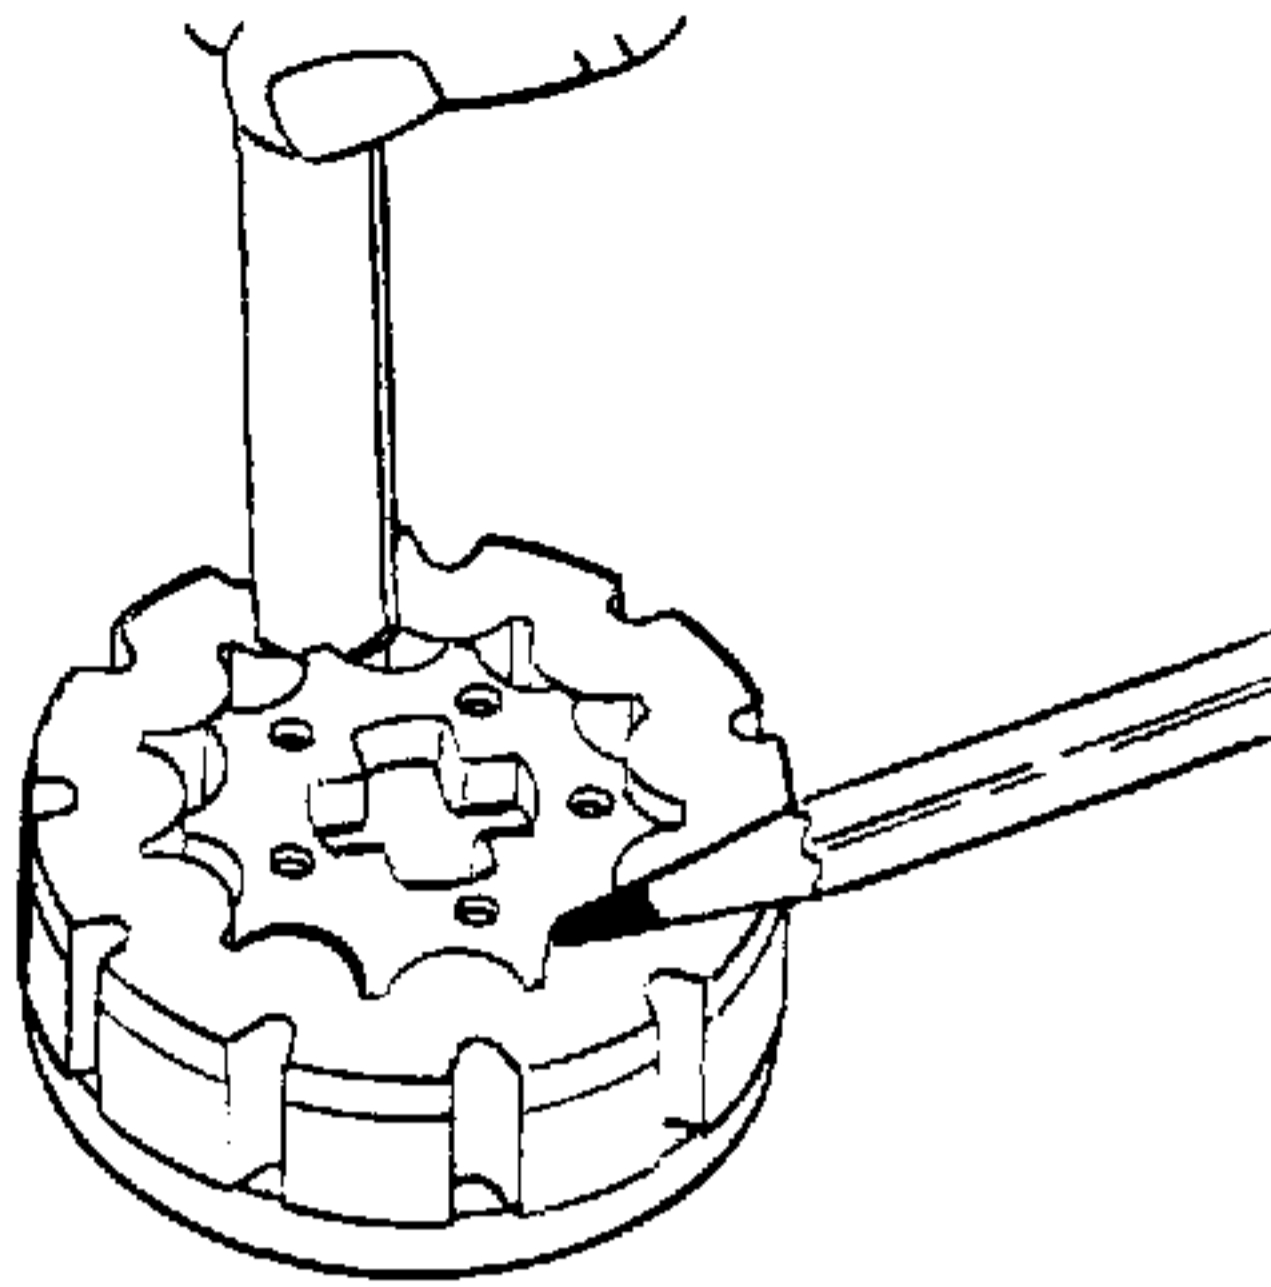

Figure 5-41. Checking Tip Clearance.
8. Inspect hex drive assembly (9) pin for wear. Pin should be firmly pressed in place. Sides of hex and slot should not have grooves or scoring. Replace if damaged.
9. Inspect isolation manifold (10) surfaces. Polished pattern is normal. Holes and edges should be free of nicks. Manifold surfaces should be free of nicks or scoring. Replace if damaged.
10. Inspect drive link (12) ends. Four crowned contact surfaces should not be worn or scored. Replace if worn or scored.
11. Inspect metering ring (13) bore for scores. Replace if scored.
12. Inspect commutator cover (16) surfaces. Polished pattern is normal. Replace if nicks, burrs or scoring are present.
13. Inspect drive link spacer (18). Replace if grooved or worn.
14. Inspect commutator and ring assembly (17) for nicks at edges or holes. Check surfaces for scoring. Edges should be sharp. Replace if damaged.
15. Inspect rotor assembly (19) as follows:
- a. With rotor assembly lying on drive plate (20), inner part of rotor should rotate and orbit freely within outer part of rotor assembly. Commutator side of outer part must be free of grooves or scoring.
- b. Perform tip clearance as follows: Check inner part (part A) tip clearance to outer part (part B) tip clearance with the appropriate feeler gauge. An A tip located directly across from A tip being gauged, must be centered between B lobes during gauging check as shown in Figure 5-41. Rotor assembly .75 inch (19 mm) or less in height has a maximum allowable tip clearance of .003 inch (.08 mm). Rotor assembly 1.0 inch (25.4 mm) or more in height, has a maximum allowable tip clearance of .005 inch (.13 mm). Replace if maximum tip clearance is exceeded.